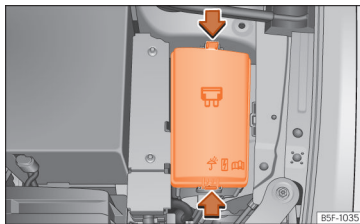

Fig. 107 In the engine compartment: lid of the fuse box.
- Press the locking tabs to release the fuse box cover »» Fig. 107.